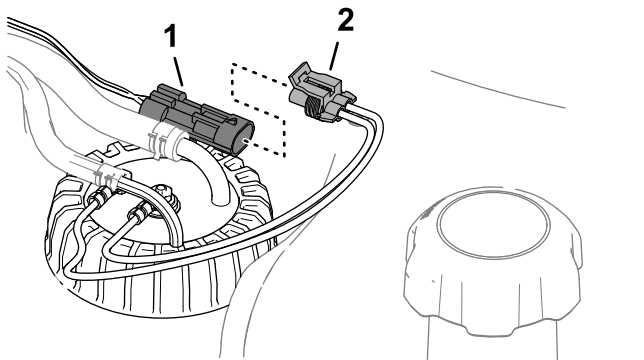

Figure 89
6. Plug the connector of the fuel-sender harness into the connector of the machine wire harness (**Figure 89**).